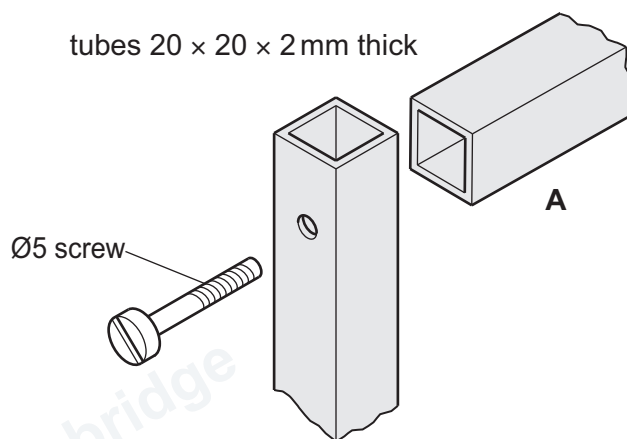

Figure 5.1
- 5 Figure 5.1 shows parts of two mild steel tubes that will be joined together by means of a Ø5 screw.